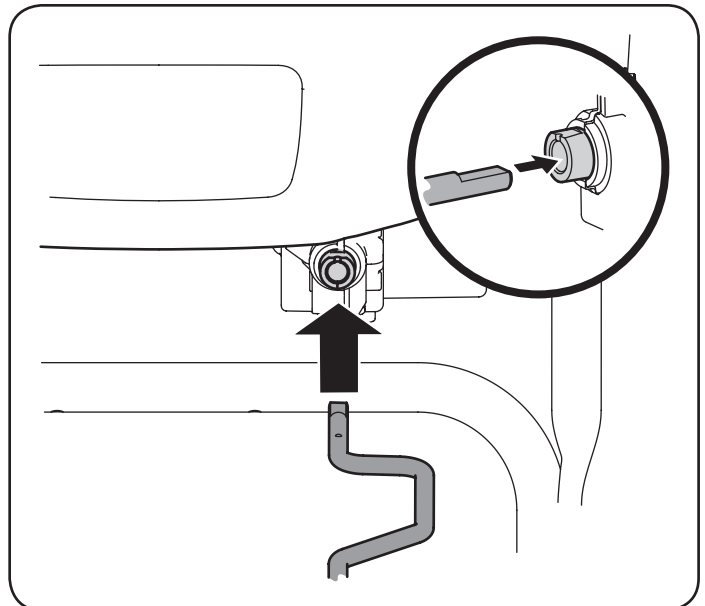

Figure 7
6. Insert the other end of the chute control rod into the input shaft below the handle panel. Make sure to line up the flat end of the rod and the flat end of the input shaft. You may need to rotate the rod around until these two surfaces line up. See Figure 7.